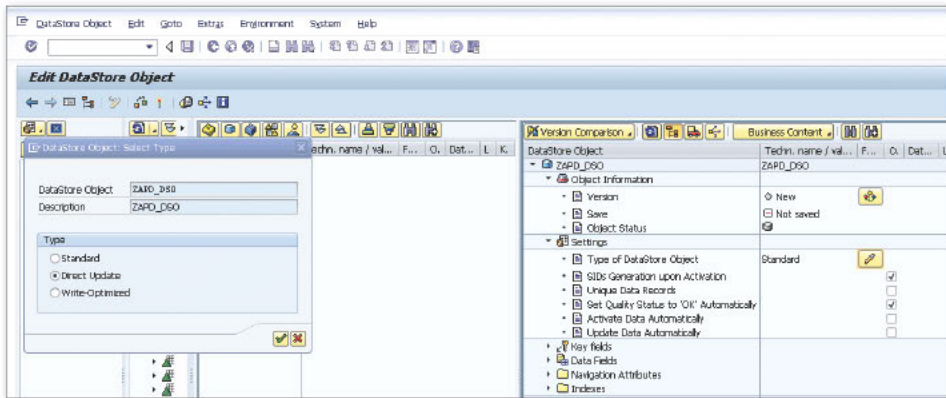

Figure 1 Direct Access DSO in Transaction RSA1
2. Go to Transaction RSA1 and create a direct update DSO. During the initial creation of the DSO, the system will prompt you to select the DSO type, so select DIRECT UPDATE as shown in Figure 1. Make sure to include all of the key fields and data fields into the DSO per the design of the source BEx queries.